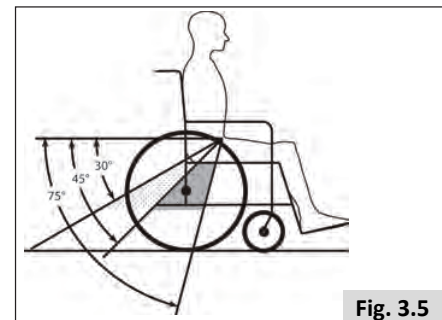

Fig. 3.5
18. A steeper (greater) angle within the preferred zone is desirable, closer to, but not exceeding 75 degrees (Fig. 3.5).